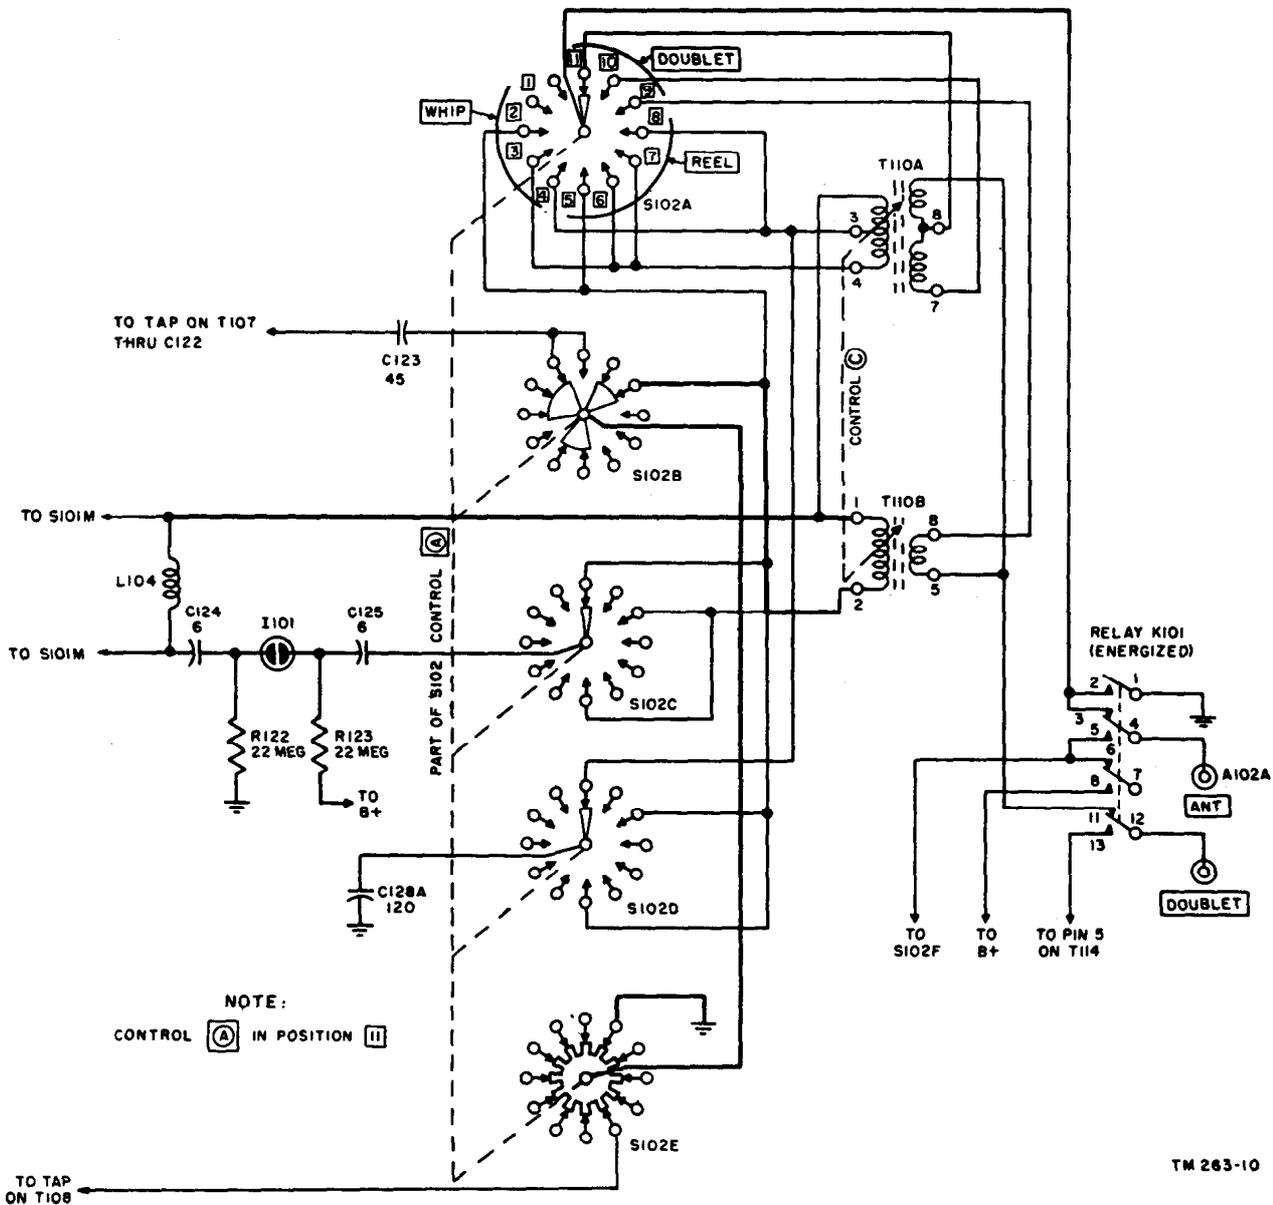

Figure 81. Antenna switching and tuning circuits.
c. *Switch Section S101M.* Plate output selector switch section S101M selects the output from the plate coil in use and leads the signal to the top of L104 in all positions. For the continuation of this figure, see figure 81.
110. Antenna Circuit (fig. 81)